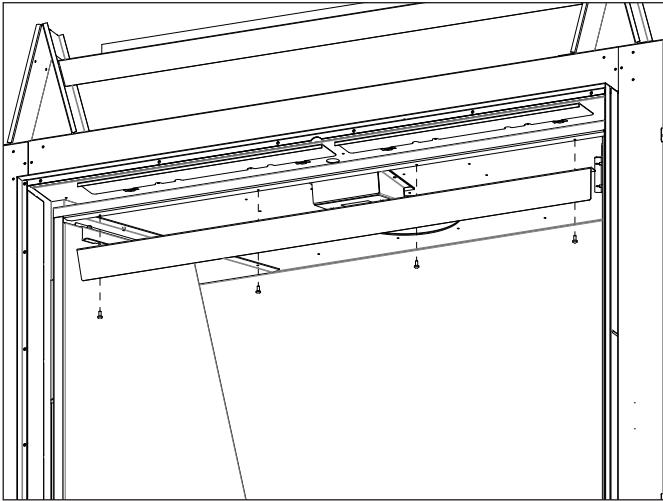

Figure 15: Light Deflector Removal
3. Remove light deflector (see Figure 15).
4. Remove light deflector (see Figure 15).